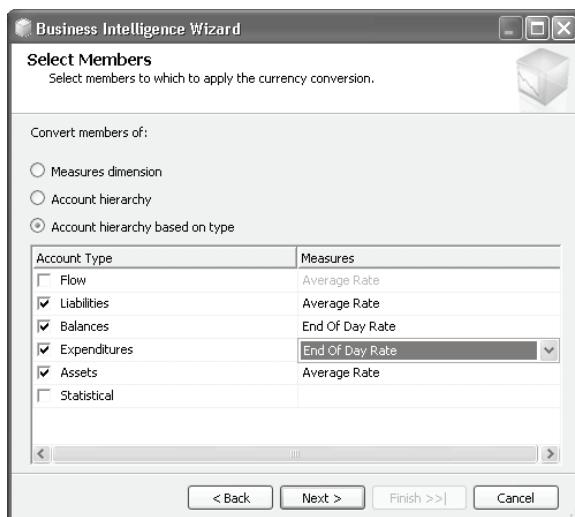

Figure 10.30 Currency conversion can be applied at the fact table level or across a chart of accounts.
Use the Select Members step (Figure 10.30) to tell the wizard how to apply the currency conversion and which currency measures will be used. As noted, the wizard is capable of converting the individual facts or of using a chart of accounts. If you decide to use the latter option, you have two choices. First, you can specify how each member of the Account parent-child hierarchy will be converted (the Account hierarchy option.) Specifying conversion options for a large chart of accounts could be labor-intensive. Instead, consider using account types, if available (the third option). As you would recall, the account types are derived from an attribute which is mapped to the AccountType semantic type.
1. Select the *Account hierarchy based on type* option. Suppose that we want to convert the Liabilities and Assets account types using the average currency rate, while we use the end of date currency rate for converting the Balances and Expenditures account types. To do so, make the selections shown in Figure 10.30.